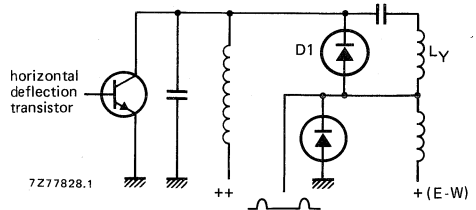

Fig. 10 Basic high-voltage E-W modulator circuit. D1 = BY328.
- Basic high-voltage E-W modulator circuit, see Fig. 10.